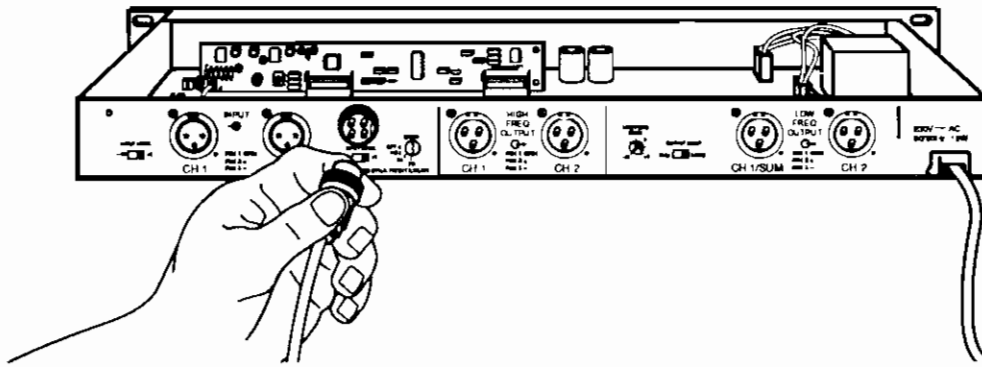

Figure 28
4. Attach the external harness to the internal harness connector on the rear of the controller (Figure 28). Turn the notch on the harness to the right to attach it to the connector.